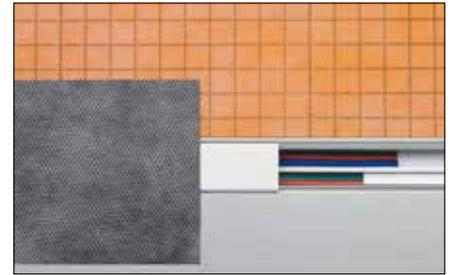

Fig. 2
4. The integrated cable duct as well as the transition to the tile installation substrate must be covered with adhesive fleece in the corresponding width after the lighting test (Fig. 2, page 6).